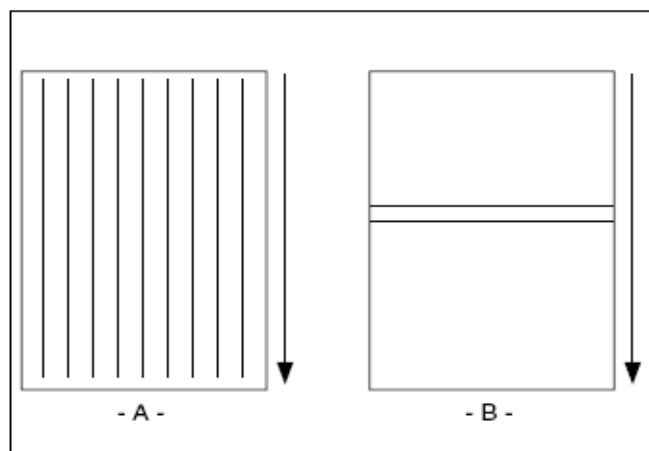

Fig. 44
3. Straight waves in output (Figure 44 A).
4. Indent waves in output after pull rollers (Figure 44 B).